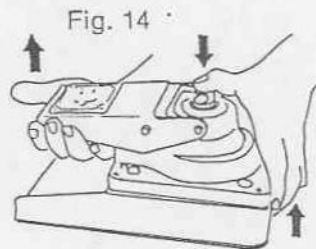

Fig. 14
5. Lift the upper housing straight up and remove it (fig. 14).